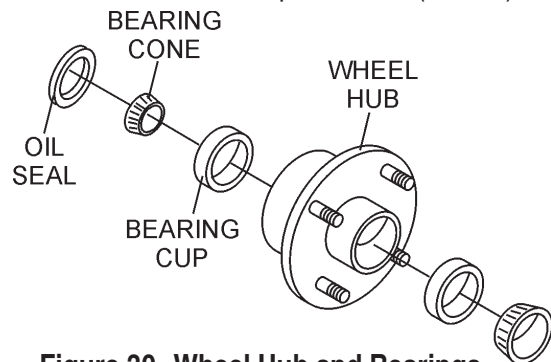

Figure 30. Wheel Hub and Bearings
1. After every 3 months of operation, remove the hub dust cap and inspect the wheel bearings (Figure 30). Once a year, or when required, disassemble the wheel hubs remove the old grease and repack the bearings forcing grease between rollers, cone and cage with a good grade of high speed wheel bearing grease (**never** use grease heavier than 265 A.S.T.M. penetration ("No. 2."))
- Fill the wheel hub (Figure 30) with grease to the inside diameter of the outer races and also fill the hub grease cap. Reassemble the hub and mount the wheel. Then tighten the adjusting nut, at the same time turn the wheel in both directions, until there is a slight bind to be sure all the bearing surfaces are in contact.